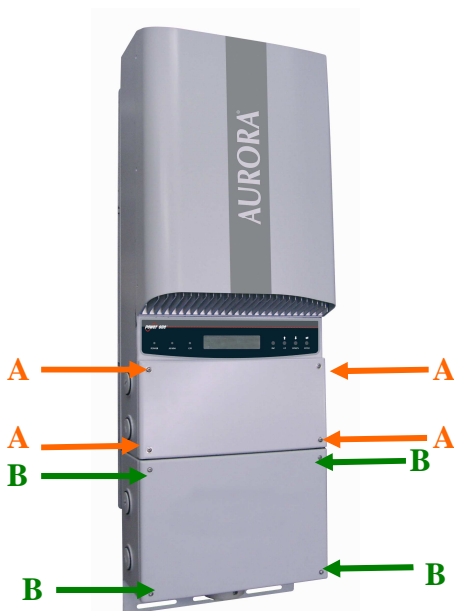

Fig. 11 - Aurora Inverter Front Panel and Dc Switch
To remove the front cover of the inverter, loosen the 4 screws shown in Fig. 11, pos “A” using the torx screwdriver provided in the box with the inverter.
To remove the front cover of the switch box, loosen the 4 screws shown in Fig. 11, pos “B” using the torx screwdriver provided in the box with the inverter.
Pos. Fig. 11	Description
Step 1: Remove the Switch Box front panel (remove the 4 screws in pos "B" of Fig. 11).